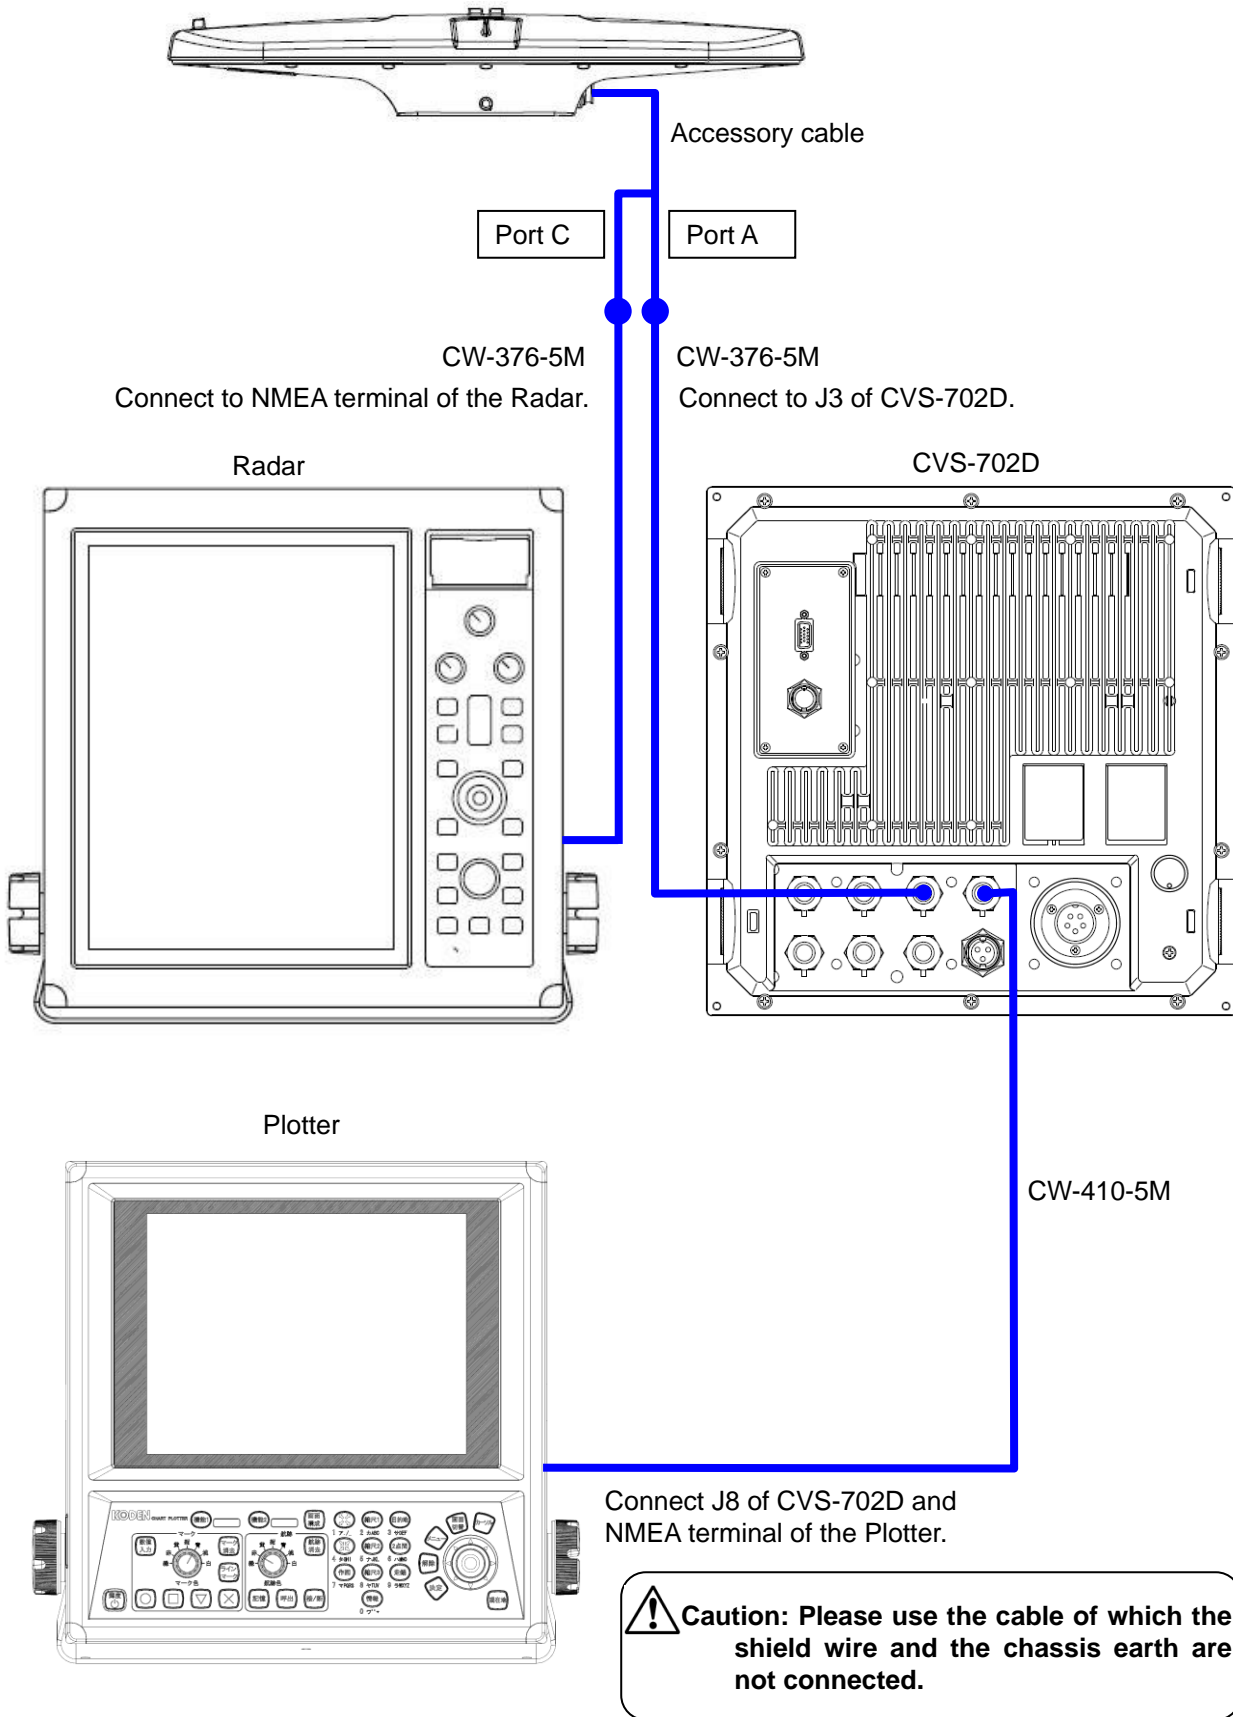
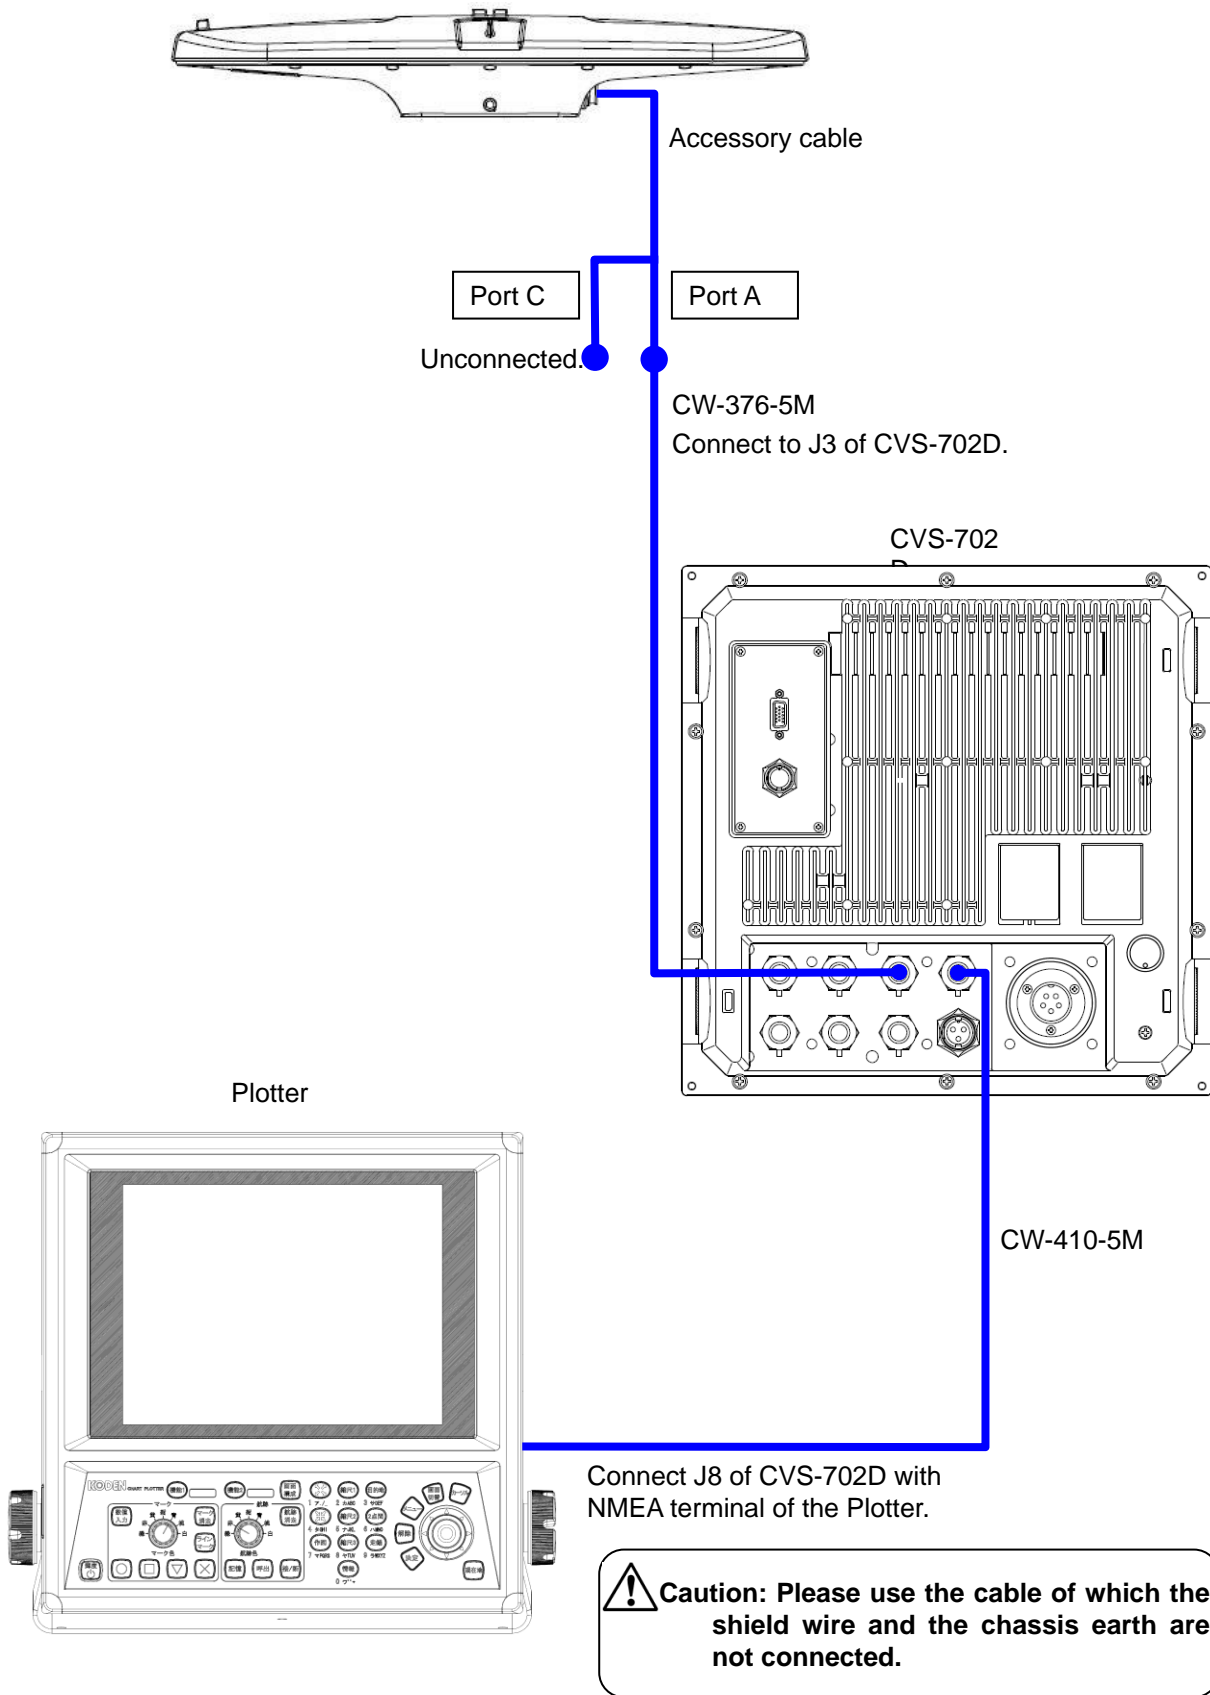

Fig. 1.36 The general connection chart 1
Fig. 1.38 The general connection chart 3
- 3) Connect CW-376-5M to NMEA terminal of Radar after soldering with Port C when connecting with Radar as GPS compass. Refer to **“Fig. 1.36 The general connection chart 1”**.
In the other cases, connection with Port C is not necessary. Refer to **“Fig. 1.38 The general connection chart 3”**.
- 4) Referring to **“Fig. 1.36 The general connection chart 1 to Fig. 1.38 The general connection chart 3”**, connect other equipment to communicate NMEA with the terminal J8 of CVS-702D.